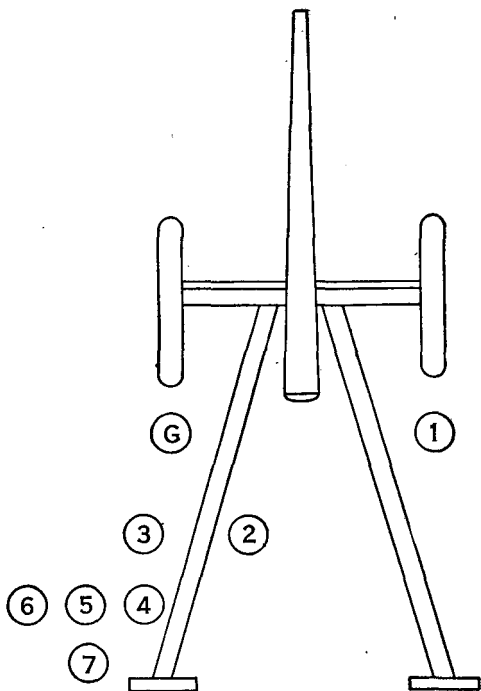

FIGURE 34.—Posts of cannoneers, gun uncoupled.
■ 79. POST OF CANNONEERS, PIECE UNCOUPLED (fig. 34).—a. The piece having been uncoupled, posts are taken as follows: